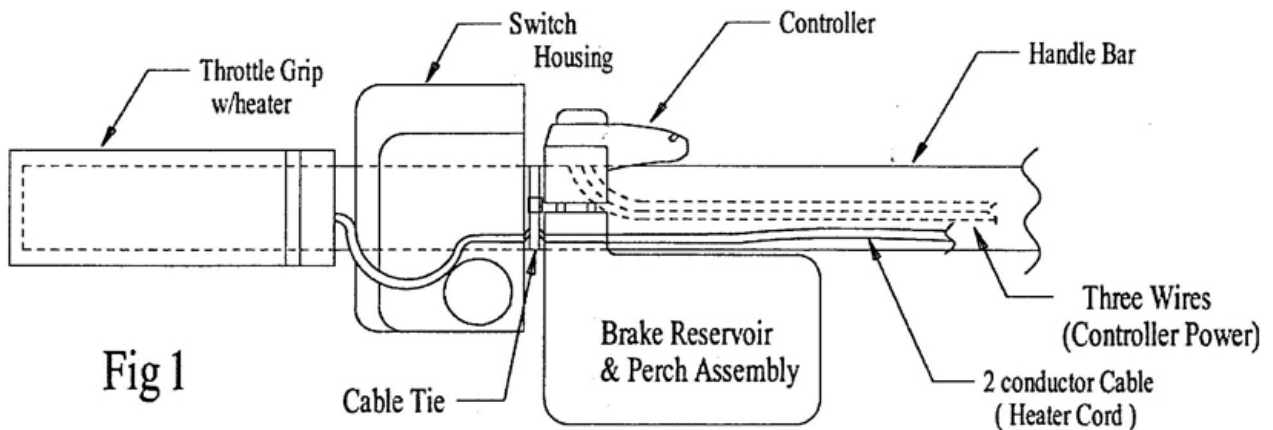

Fig 1
6. Use the string in the kit to assist pulling the 3 Controller wires from the first hole and out the bottom hole. The string can be used with a vacuum. Tape off all the holes in the bar except the 2 just added. Apply the vacuum to the bottom hole. Tie a knot in the end of the string and feed it from the top hole out the bottom hole. Once the string is routed between the holes, the 3 wires from the Controller should be attached and pulled through the bar and out the bottom. Attach the Controller to the brake reservoir and perch assembly, as shown in Figure 1, but do not tighten.
11. Install the throttle grip per the manufacturer's instructions. After the throttle grip is installed route the heater cable along the handlebar to the yoke area. A loop in the cable, as shown in Figure 1, is required to assure there is free rotation of the throttle. Add wire ties as required.